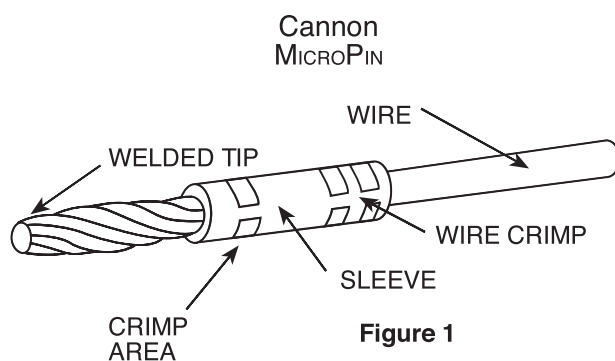

Figure 1
*Figure 1 - The Twist Pin Contact System consists of several stranded cores making up the wire bundle. The strands are subsequently heat treated and a weld is performed on the tip of each contact. Crimp sleeves are then inserted over the contact and crimp areas are defined to produce a seamless crimp system. The Twist Pin Contact System is referred to by ITT Cannon as a Pos-A-Line contact alignment system. Our reference to this system identifies that the flexible Twist Pin is recessed into the insulator and the rigid socket is exposed thus reversing the traditional positions of the pin and socket. During the mating sequence, the socket is guided into the pin insulator by the lead-in chamfer. The pin is kept from flexing beyond the socket capture radius by the walls of the cavity. The hemispherical weld of controlled radius at the tip of the pin combines with the lead-in chamfer of the socket contact and the pin insulator to cam the pin into alignment. ITT Cannon has developed a very robust Six Sigma manufacturing process that controls the welding process as well as the dimensions of the socket contact and insulator material. The net result is a contact system that makes it impossible for the recessed pin to escape the socket capture radius.